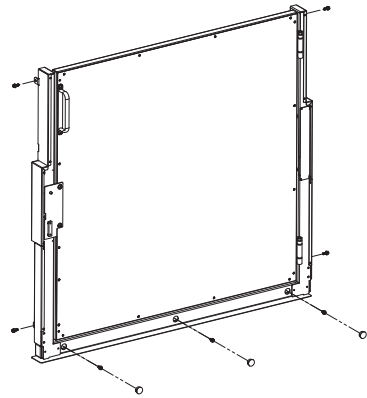

Figure 4-8
2. Install four (4) $\frac{1}{4}$ " -20 x $\frac{5}{8}$ " screws through tabs in gate frame into threaded holes on platform panels. **See Figures 4-8 and 4-9.**